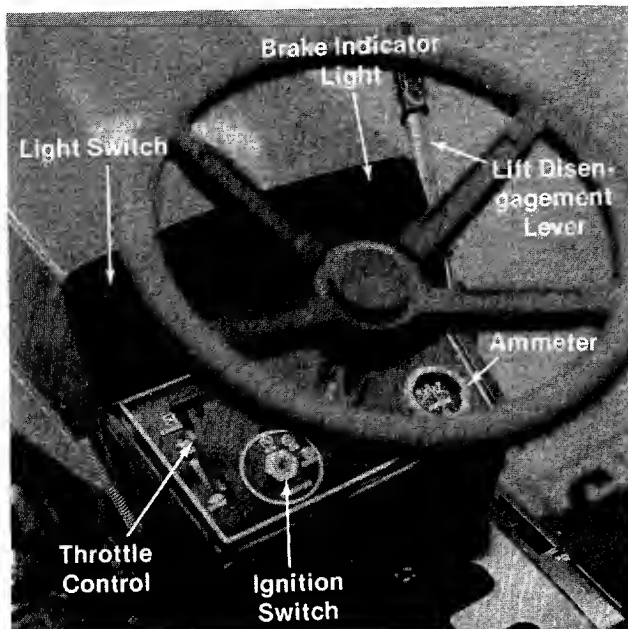

FIGURE 14.
- a. **Throttle Control.** The throttle control is used to regulate the engine speed and choke the engine. The engine should be operated from $\frac{3}{4}$ to full throttle when operating the cutting deck or snow thrower (optional). See figure 14.
- b. **Gear Shift Lever.** The gear shift lever is used to shift into one of three Forward Gears, "NEUTRAL" or "REVERSE." See figure 14.
- c. **Lift and Disengagement Lever.** It is used to raise the cutting deck. Pulling it all the way back and locking it disengages the blades. The engine will not start unless the lift and disengagement lever is in the disengaged position. See figure 14.
- d. **Ignition Switch.** See figure 14. Turn the key to the "START" position to start the engine. When the engine is running, let the key return to the "ON" position. To stop the engine, turn the key to the left to the "OFF" position and remove it to prevent accidental starting.
- e. **Light Switch.** Push the light switch to turn on the lights. The lights will only operate when the engine is running. See figure 14.
- f. **Brake Indicator Light.** The brake indicator light is located on the dash panel. Whenever the starter key is on and the brake pedal is depressed, it will illuminate. See figure 14.
- g. **Ammeter.** The ammeter registers the rate of battery charge or discharge. The ammeter should register on the plus side (+) when the engine is running in the fast position until the battery is completely charged. With a fully charged battery or with the engine idling, the ammeter will not show a charge. See figure 14.
3. Place the lift and disengagement lever in the **DISENGAGED** position. See figure 14.
4. Set the throttle control in the **CHOKE** position. See figure 14.
5. Turn the ignition key to the "START" position. When the engine is running, let the key return to the "ON" position. See figure 14.